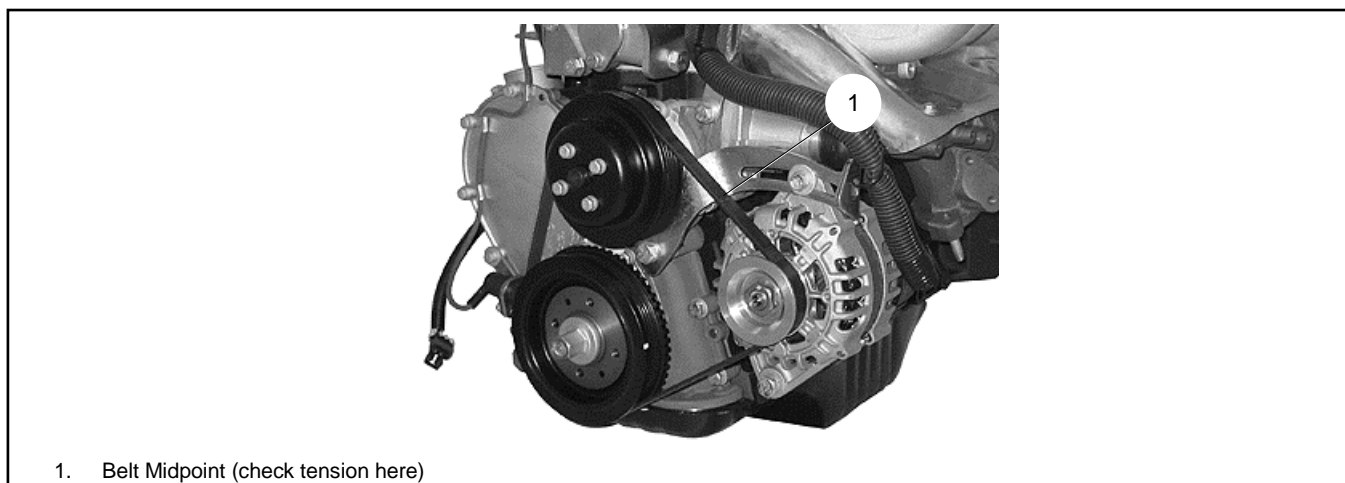

Figure 33 Drive Belt Location
4. Set drive belt tension to specification. See Figure 33.